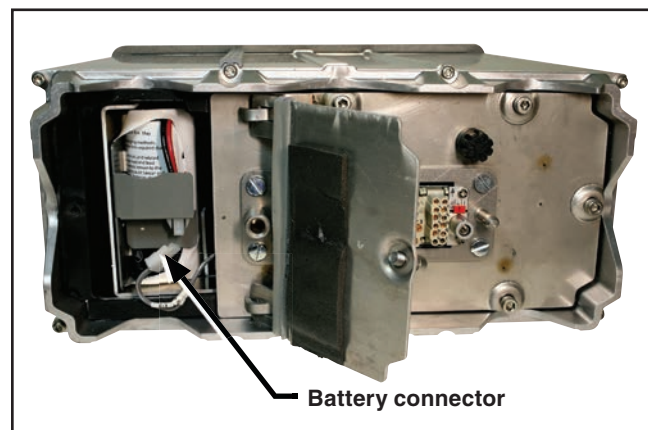

Figure 6. Disconnecting the battery leads.
- STEP 3.** Push in the clip on the battery connector and carefully disconnect the battery leads. See Figure 6.